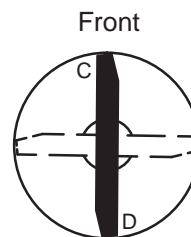

Figure 44
2. Position the blade front-to-rear (Fig. 44).
3. Measure at the **C** and **D** locations (Fig. 44) from a level surface to the cutting edge of the blades (Fig. 45).